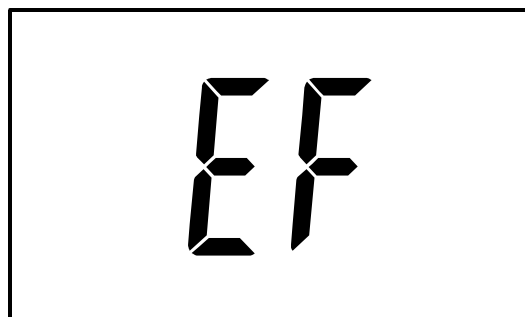

Figure 3
1. Set the rotary switch in **NCV** position. The display shows " **EF** " (refer to Figure 3).